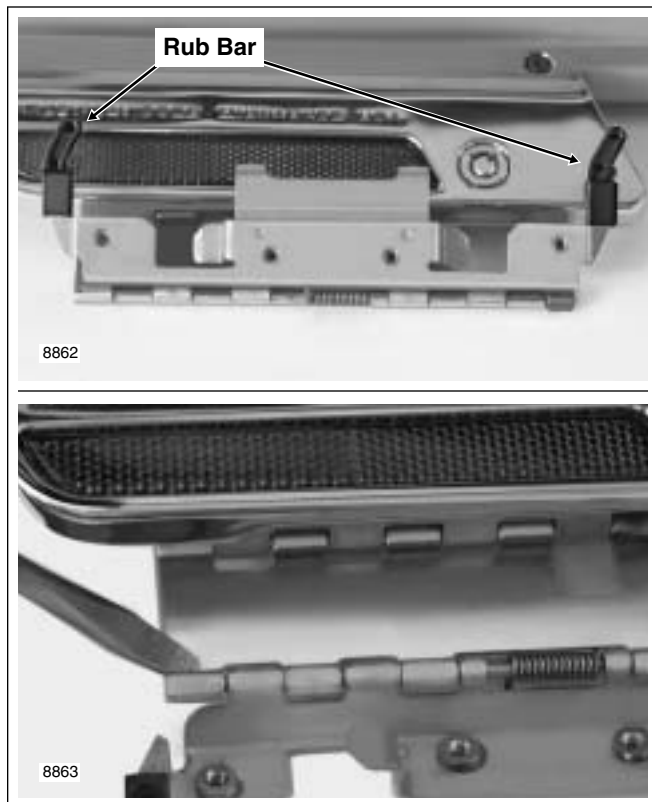

Figure 2-138. Lid Right Side Up With Latch on Near Side
8. Raise latch slightly and rotate hinge on inboard side so that it is topside with the two plastic rub bars pointed upward. See upper frame of Figure 2-138.
9. Rotate rub bar section of hinge to expose hinge pin and spring. Using a flat tip screwdriver, carefully bend crimped end link outward. See lower frame of Figure 2-138.
3. Reposition lid so that it is right side up with latch closest to you. As before, raise latch slightly and rotate hinge on inboard side so that it is topside with plastic rub bars pointing upward. Now rotate rub bar section of hinge to expose hinge pin and spring. See Figure 2-138.